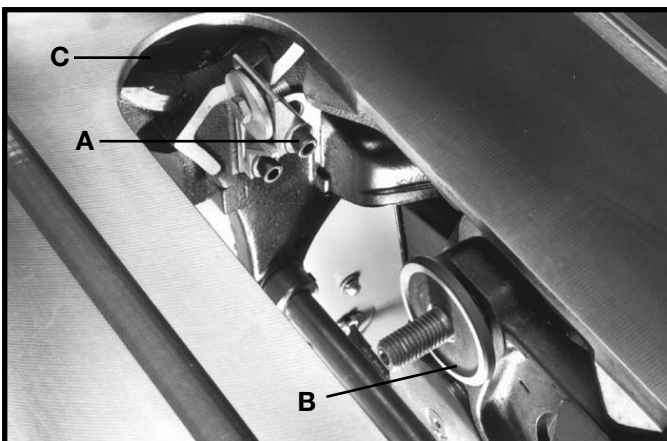
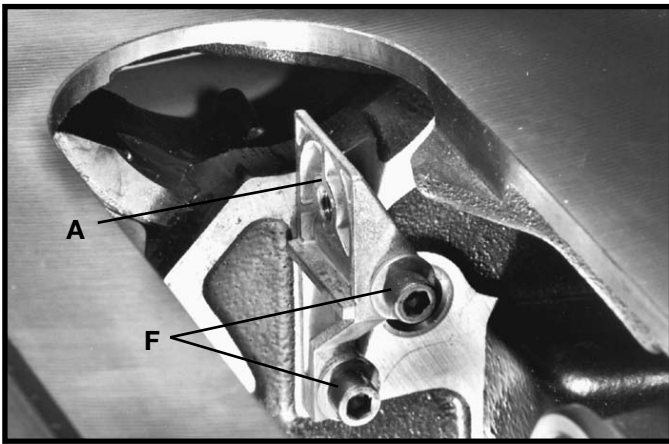

Fig. 23
Fig. 25
2. The inside splitter mounting bracket (A) Fig. 23, is assembled to the inside of the saw and aligned with the inside blade flange (B) at the factory.
4. If an adjustment is necessary, loosen two screws (F) Fig. 25, and adjust splitter bracket (A) until it is aligned with the inside blade flange (B) Fig. 23. Tighten two screws (F). Loosely assemble screw and fastener plate (C), which were removed in STEP 2.